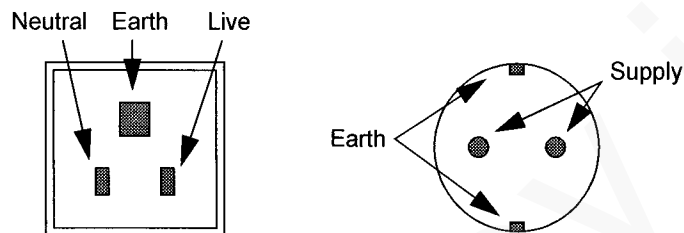

Figure 2-2. 220 VAC Receptacle
2. **220 VAC:** Voltage at the wall receptacle is 180 VAC to 264 VAC between live and neutral and between live and earth. Voltage should be 3 VAC or less between earth and neutral (Figure 2-2).